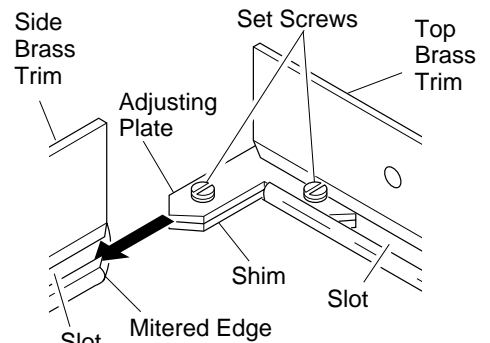

Figure 37 - Assembling Brass Trim
3. Align shim under adjusting plate as shown in Figure 37.
4. Slide one end of adjusting plate/shim in slot on mitered edge of top brass trim (see Figure 37).
5. Slide other end of adjusting plate/shim in slot on mitered edge of side brass trim (see Figure 37).